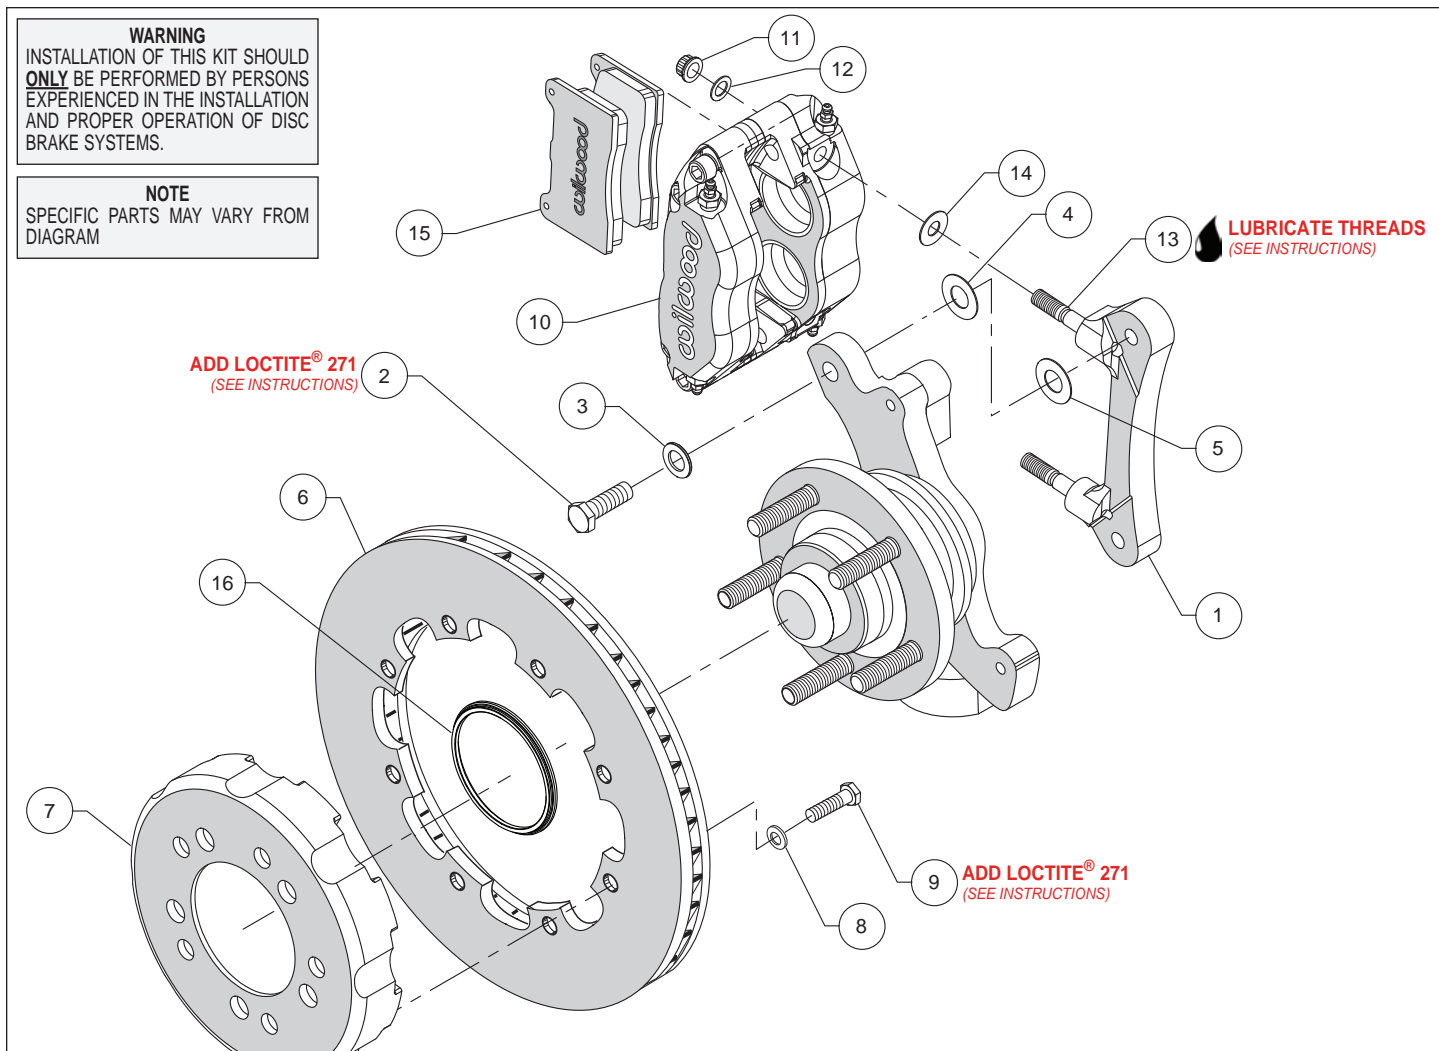
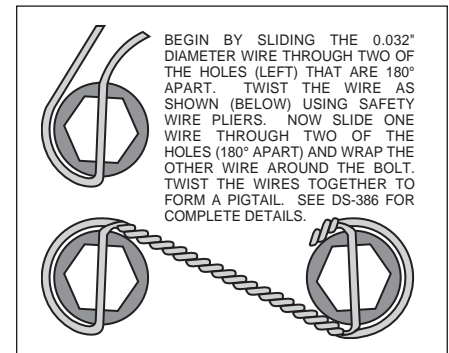

Figure 1. Typical Installation Configuration
Figure 4. Safety Wire Diagram
- The caliper mount bracket assembly (1) should be installed first with clean, dry threads on the mounting bolts. Install the bracket on the inboard side of the spindle by sliding bolt (2) through flat washer (3), and spindle ear from the outboard side of the spindle. Place two shim washers (5) between the bracket (1) and the spindle (see figure 1). The bracket must tighten squarely against the inboard side of the modified caliper mount bosses on the spindle body. Inspect for interference from casting irregularities, machining ridges, burrs, etc. Later, after the caliper, pad, and rotor alignment has been checked, and any necessary shims have been put in place, the mount bolts should be coated with red *Loctite*® 271 and torqued to 65 ft-lbs.
- Slide the rotor registration adapter (16) onto the axle register on the axle flange with the smaller O.D. facing toward the hat (7)
- With the larger I.D. side of the rotor (6) facing away from the hat (7), attach the rotor (6) to the hat (7) using washers (8) and bolts (9) as shown in Figure 1. Using an alternating sequence, apply red *Loctite*® 271 to the threads and torque bolts to 25 ft-lb. For an added measure of security, the bolts may be safety wired using standard 0.032 inch diameter stainless steel safety wire as shown in Figure 4. -- Please refer to Wilwood's data sheet DS-386 (available at [www.wilwood.com/Pdf/DataSheets/ds386.pdf](http://www.wilwood.com/Pdf/DataSheets/ds386.pdf)) for complete safety wire installation instructions.
- Lubricate caliper mounting studs (13) and nuts (11) with lightweight oil. Install two shims (14) over each stud (13) on the radial mount bracket. Slide the caliper (10) in place over the studs and rotors and install the washer (12) and lock nut (11) to hold the caliper in place. Snug the lock nuts (11) and check that the rotor (6) is centered in the caliper (10). Add or subtract shims (4 and/or 5) as necessary between the mount bracket and the spindle to center the caliper.
- Remove the caliper center bridge pad retainer bolt, nut, and tube from the caliper. Slide the brake pads (15) into place. They should install easily without interference. Check that the outside radius of the brake pad is flush with the outside diameter of the rotor face. Add or subtract shims (14) between the caliper and mount bracket to gain the proper alignment. Reinstall the center bridge pad retainer tube, bolt, and lock nut. The locknut should be snug without play in the bolt or tube. Be cautious not to over tighten.
- Once all clearances have been checked, remove the wheel, caliper, hat, and rotor from the spindle and hub. Secure the caliper mounting bracket (1) to the spindle using red *Loctite*® 271. Torque the bolts to 65 ft-lbs. Reinstall the hat and rotor assembly and again use several lug nuts to hold it in place. Reinstall the caliper, torque the caliper nuts (11) to 30-35 ft-lbs.